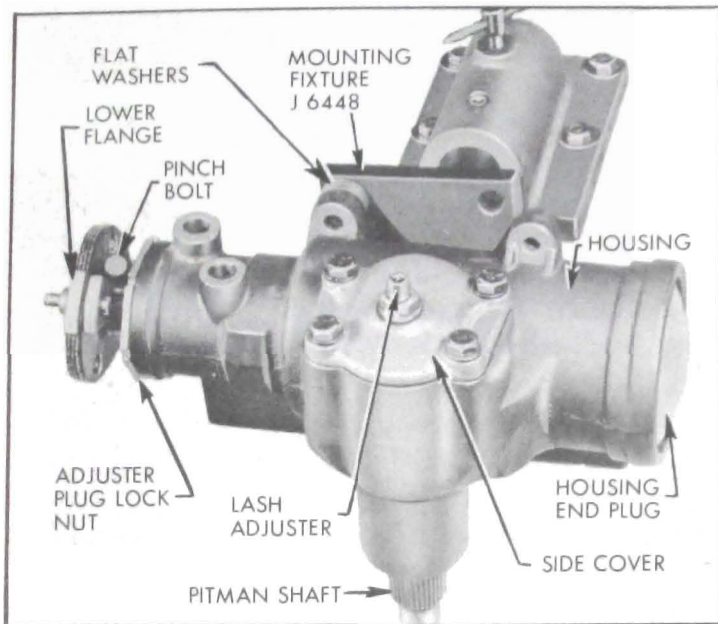

Figure 8-24—Steering Gear Assembled to Mounting Fixture
1. This adjustment is made when the gear is completely assembled. Assemble power steering gear assembly to Fixture J-6448. See Figure 8-24.
2. Assemble gear housing to fixture, J-6448. See Figure 8-24.